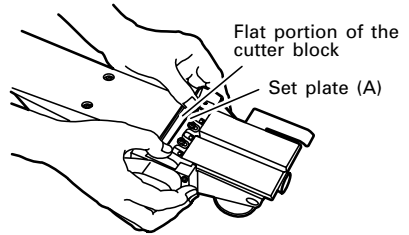

**Fig. 21**
- (3) Loosen the 2 screws holding on the carbide blade and set plate (A), set plate (B).
- (4) As shown in **Fig. 21, 22**, press the turned surface of set plate (A) to the wall surface (B) while adjusting the carbide blade edge to the wall surface a of the set gauge. Then, tighten them with the 2 screws.